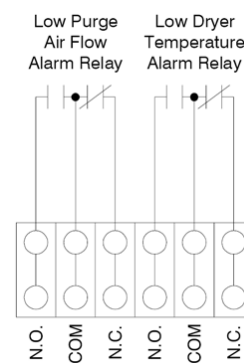

Figure 20
- Refer to Figure 20. For external connection, the second set of contacts in each relay is "dry". No power is applied. This allows the user to determine the control voltage that will be used. A typical use of the alarm signal, as described above, is to control sample flow. The actual use is left up to the customer.